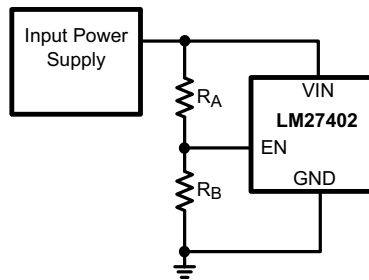

Figure 28. Enable Sequencing
If enable (EN) is not controlled directly, the LM27402 can be pre-programmed to turn on at an input voltage higher than the UVLO voltage. This is done with an external resistor divider from  $V_{IN}$  to EN and EN to GND as shown in Figure 28.
The internal current source  $I_{CS-}$  is powered from the input voltage rail,  $V_{IN}$ . The minimum voltage required to drive that current source is 1 V from  $V_{IN}$  to  $V_{OUT}$ . If a low-dropout condition occurs where  $V_{IN} - V_{OUT} < 1$  V, the LM27402 may prematurely initiate hiccup mode. There are multiple options to avoid this situation. The first option is to enable the LM27402 after the input voltage has risen 1 V above the nominal output voltage as seen in Figure 28. The second option is to lower the comparator common-mode voltage shown in Figure 34 such that the  $I_{CS-}$  current source has enough headroom voltage.